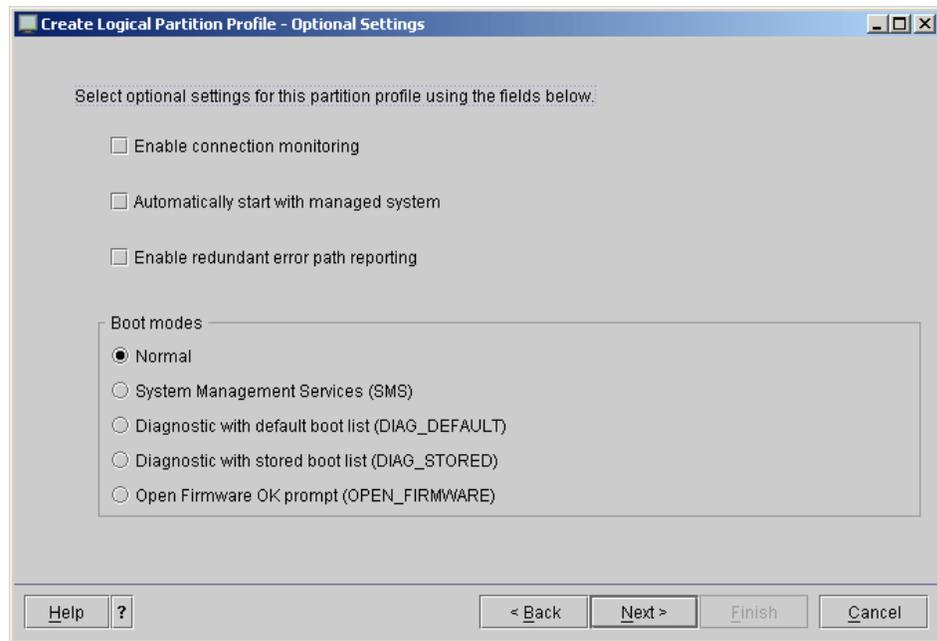

Figure 3-18 Boot mode setting selection
7. Select **Normal** for your boot mode setting, as shown in Figure 3-18.